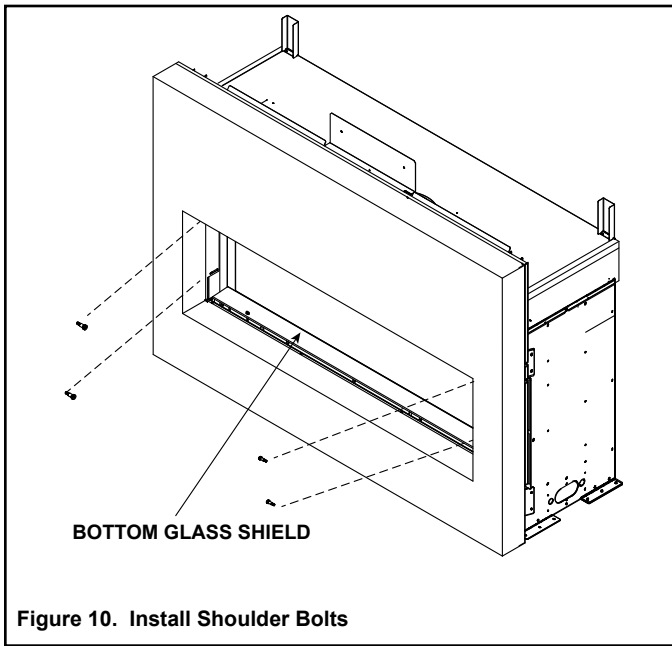

Figure 10. Install Shoulder Bolts
7. Install shoulder bolts into appliance through trim ring as shown in Figure 10.